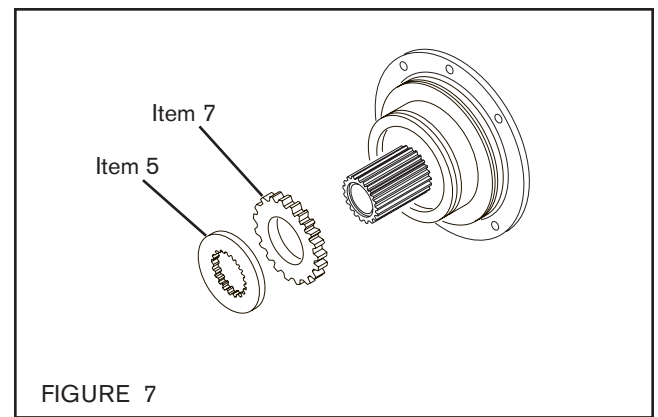

FIGURE 7
1. Remove the three Friction Plates (Item 5) and old Friction Facings (Item 7) (See Figure 7).